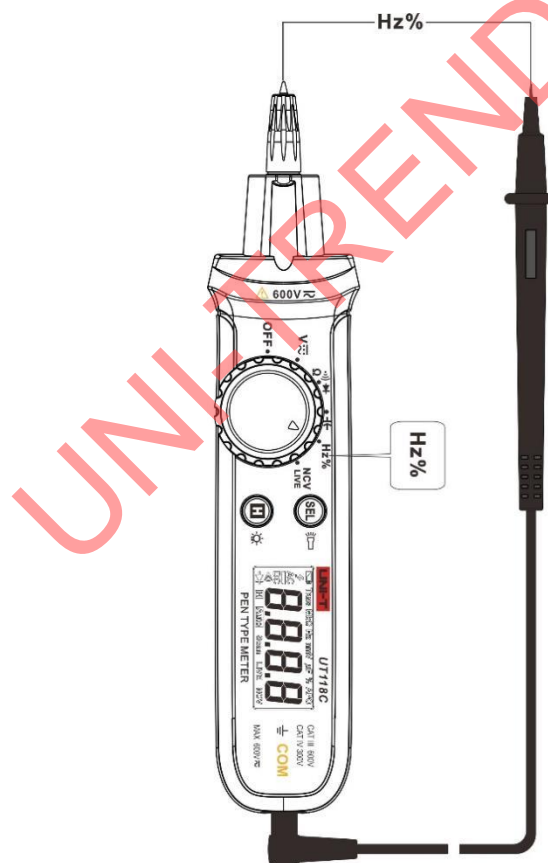

Figure 6
11.4 Measure Frequency/Duty Cycle (Figure 6)